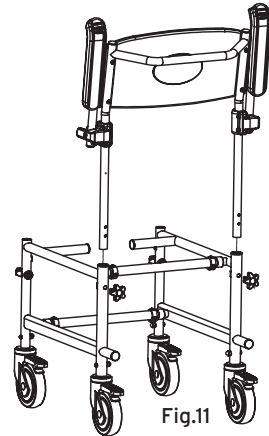

Fig.11
- Insert the backrest inside the holes on the wheelchair frame and fix the backrest using the two fixing knobs (Fig.11);